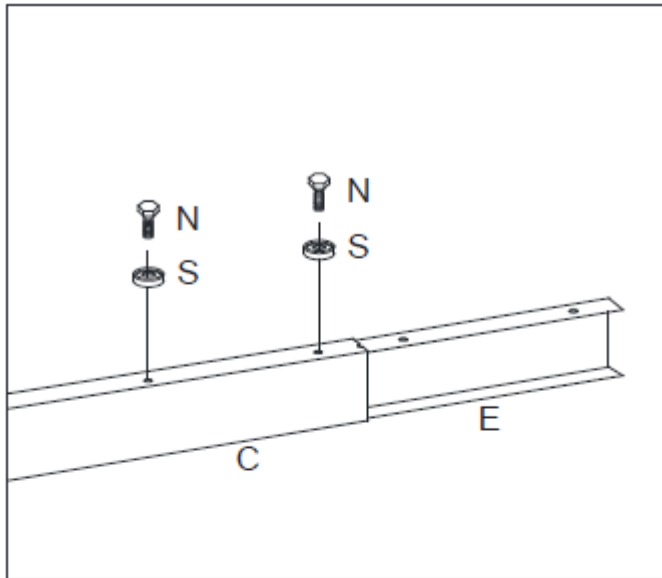

Figure 2-1
Step 2A: Insert the Cross Beam Center Connector Plate (E) into the Outside Lintel (C), attach using Bolts (N) and Plastic Washers (S). See Figure 2-1.